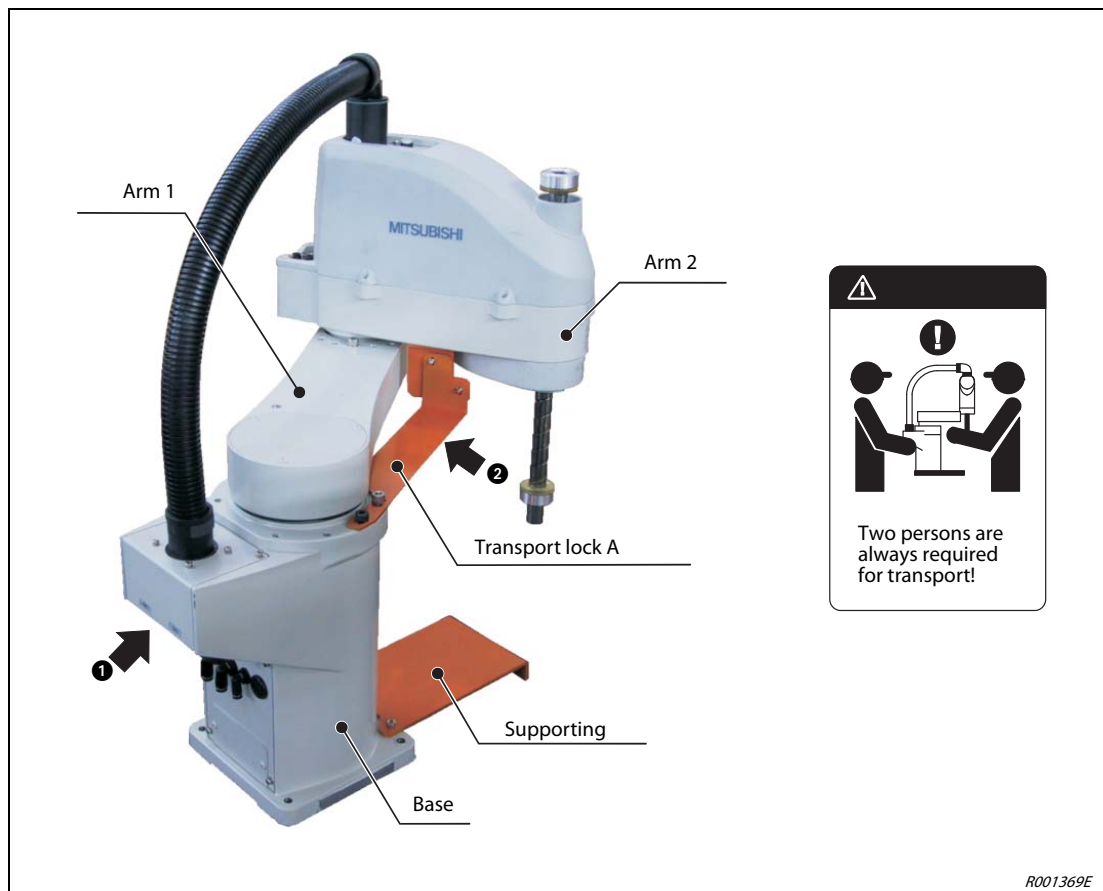

Fig. 3-7: Holding points on robot arm
- **Always carry the robot arm at holding points ① and ②. Never carry the robot arm at the covers because this may result in damages.**
- ① Two persons are always required for transport. When doing so, always carry the robot arm at points ① in the base area and ② on arm 2, as well as at transport lock A (see Fig. 3-7). Never carry the robot at the sides or at its covers because these may become loose and can destroy the robot arm.